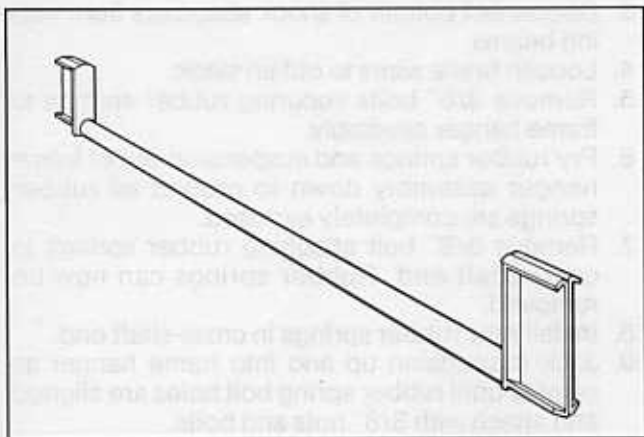

Figure 4 – MOR/ryde Tandem Cross-Shaft Assembly
The cross-shaft assembly utilized on the MOR/ryde tandem axle suspension acts as the fulcrum for the walking beam assemblies and supports one vertical side of the rubber springs located between the two (2) axles. Refer to Figure 4. The cross-shaft attachment to the walking beams is insulated through rubber bushings.